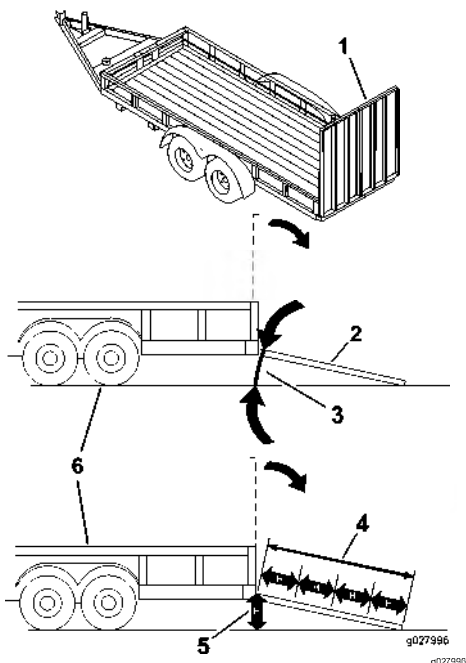

Figure 31
**Loading a machine onto a trailer or truck increases the possibility of tip-over and could cause serious injury or death (Figure 31).**
3. Lower the ramp, ensuring that the angle between the ramp and the ground does not exceed 15 degrees (Figure 31).
1. Lower the ramp, ensuring that the angle between the ramp and the ground does not exceed 15 degrees (Figure 31).